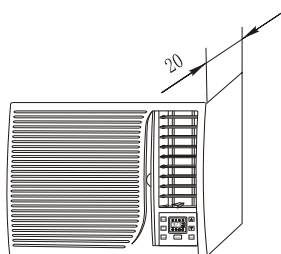

Fig.5
- A clearance of 20 mm is advisable between the appliance cabinet and the wall. Fix the indoor air intake panel with the cabinet by employing two screws which packed in the packing bag as shown in Fig.5.